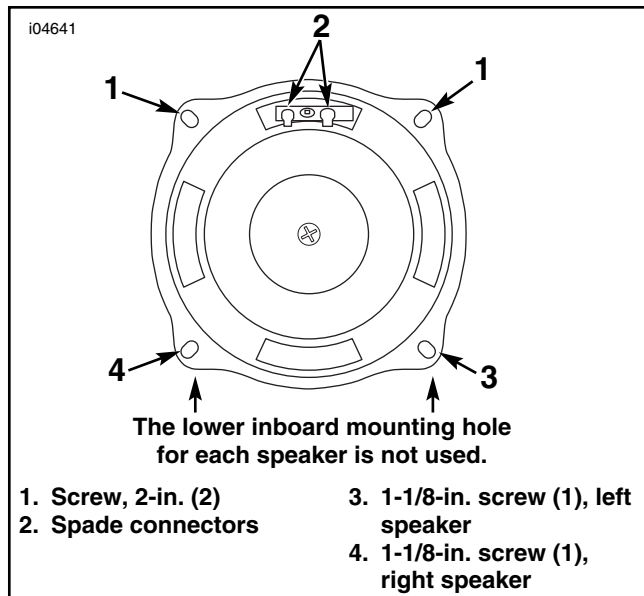

Figure 3. Speaker Installation
3. See Figure 3. Install two 2-inch screws at the top of the speaker to fasten the speaker adapter assembly to the inner fairing. Torque the screws to **22–28 in-lbs** (2.5–3.2 Nm).